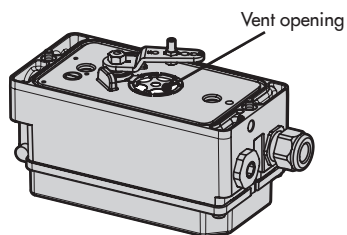

Fig. 5-1: Vent opening
- Do not seal or restrict the vent opening (see Fig. 5-1) when the device is installed on site.